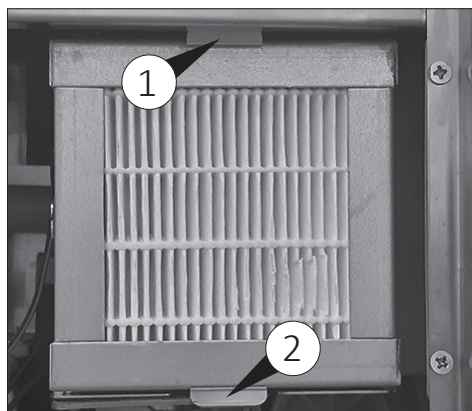

Fig. 17
- 2) Remove the filter by lifting one of the two hooks (1 or 2 Fig. 17).